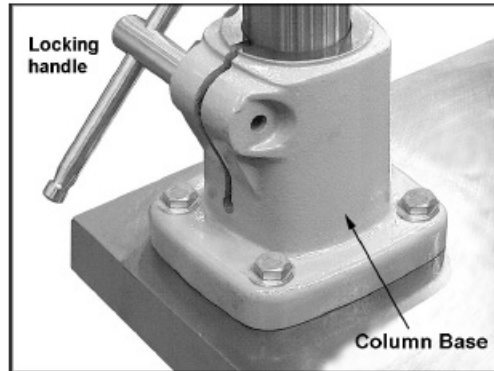

Figure 4
6. Place the column base in position (Figure 4), and align the four holes in the column base with the holes in the
7. Insert four M12x50 hex cap screws with four M12 spring washers through the holes in the stand. See Figure 4.